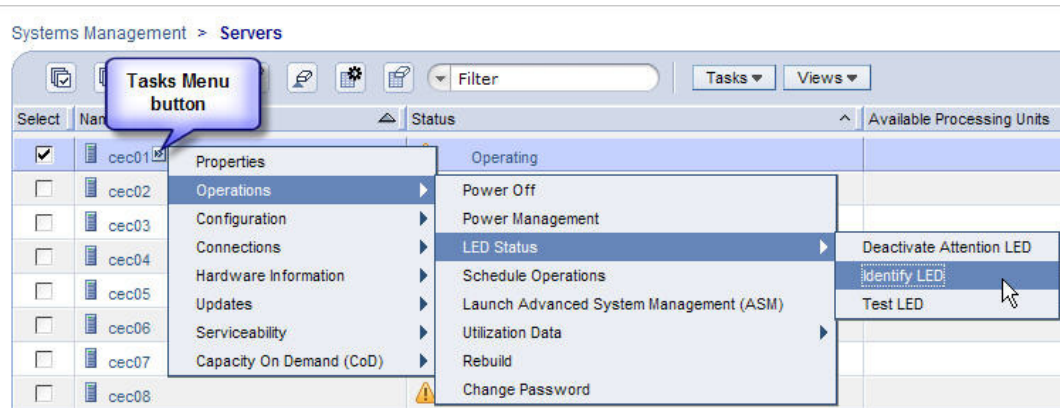

Figure 5 Identify LED Selection
The enclosure VPD label is placed on the rear of a Disk Enclosure just above the enclosure LEDs (see Figure 5 DE Enclosure VPD Label).
An example of a location code of a SAS Cable in the DE with the label shown in Figure 5 is:
- STEP 4 From the **Tasks** menu *select* **Operations -> LED Status -> Identify LED** (see Figure 5).